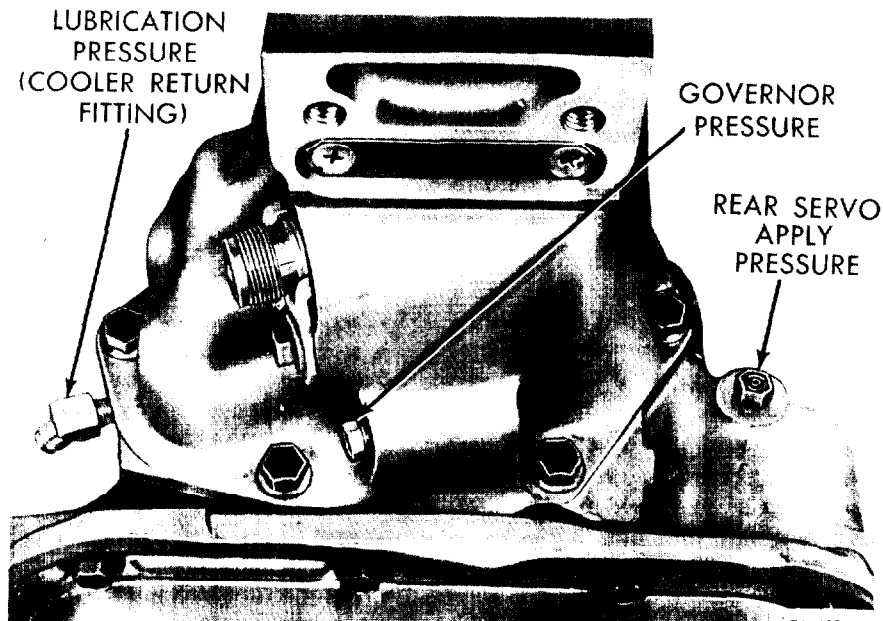

Figure 4-11. Pressure Test Locations (Rear End of Case).
(1) If proper line pressure, minimum to maximum, is found in any one test, the pump and pressure regulator are working properly.
(2) Low pressure in "D," "1," and "2," but correct pressure in "R" indicates a rear clutch circuit leakage.
(3) Low pressure in "D" and "R," but correct pressure in "1" indicates a front clutch circuit leakage.
(4) Low pressure in "R" and "1," but correct pressure in "2" indicates a rear servo circuit leakage.
(5) Low line pressure in all positions indicates a defective pump, a clogged filter, or a stuck pressure regulator valve.
(Z) Connect a 100 psi gage to the governor pressure take-off point, located at the lower left side of the extension near the mounting flange (figure 4-11).
(2) Operate the transmission in third gear to read the pressures, and compare speeds shown in table 4-2. If governor pressures are incorrect at the given vehicle speeds, the governor valve and/or weights are probably sticking (see chapter 18). The governor pressure should respond smoothly to changes in mph and should return to 0 to 1-1/2 psi when the vehicle is stopped. High pressure at standstill (above 2 psi) will prevent the transmission from downshifting.